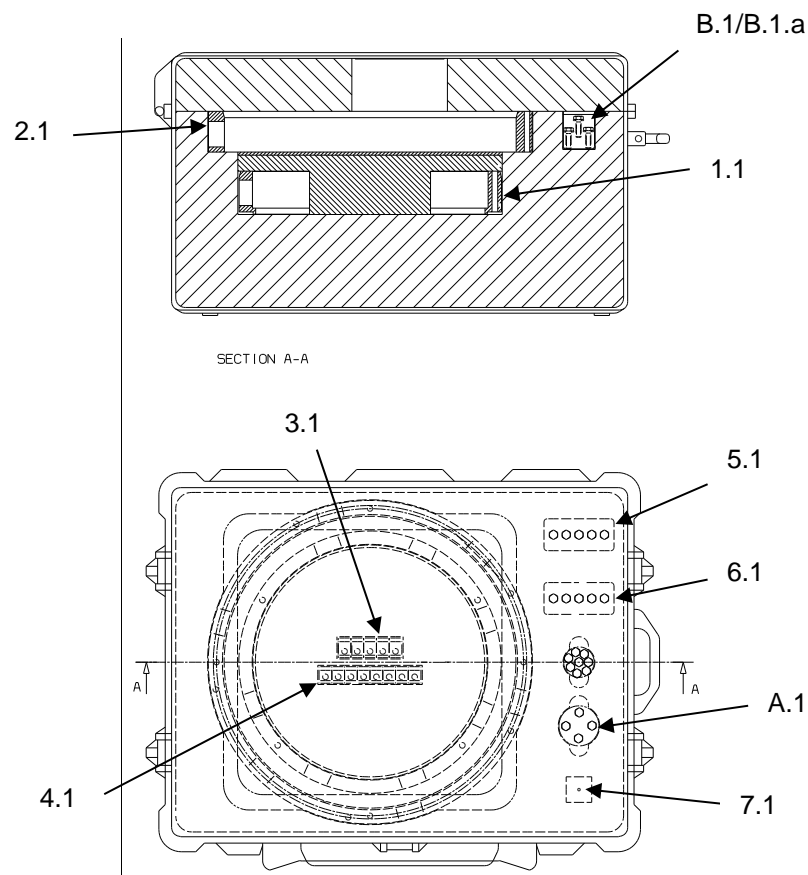

Figure 4 – Tool Kit, Swashplate Assy Assembly Case 1 Main Parts
- 3G6200G02151 GUIDE, SWASHPLATE DUPLEX BEARING INSTL (#1.1, Figure 4)
- 3G6205G11751 GUIDE, SWASHPLATE ASSY ASSEMBLY (#2.1, Figure 4)
- 3G6200G02251 LONG CLAMP, SWASP. DUPLEX BEARING POSIT (QTY 5) (#3.1, Figure 4)
- 3G6205G11451 CLAMP, SWASHPLATE DUPLEX BEARING POSIT. (QTY 8) (#4.1, Figure 4)
- 3G6200G02351 BOLT GUIDE (QTY 5) (#5.1, Figure 4)
- 3G6200G02451 BOLT CLAMP (QTY 5) (#6.1, Figure 4)
- 3G6205G15551 PIN (#7.1, Figure 4)
- AN5-27A BOLT MACHINE (QTY 4) (#A.1, Figure 4)
- AN5-10A BOLT MACHINE (QTY 8) (#B.1, Figure 4)
- NAS1149G0563P WASHER, FLAT (QTY 10) (#B.1.a, Figure 4)
The tool is used to guide the Duplex bearing during the installation on the Rotating swashplate assy configuration 1 in conjunction with 3G6205G15551 PIN (#7.1, Figure 4) and AN5-27A BOLTS (#A.1, Figure 4)(QTY 4).
The guide is used to guide the Duplex bearing during the installation on the Rotating swashplate assy configuration 2, in conjunction with 3G6205G15551 PIN (#7.1, Figure 4), 3G6200G02351 BOLT GUIDE (#5.1, Figure 4) (QTY 5) and washers NAS1149G0563P (#B.1.a, Figure 4) (QTY 5).
The n°5 clamps are used with 3G6200G02451 SPECIAL BOLT CLAMP (#6.1, Figure 4) (QTY 5) and washers NAS1149G0563P (#B.1.a, Figure 4) (QTY 5). to lock in position the Duplex bearing during the cooling after installation into Rotating Swashplate configuration 2.
The clamps are used with AN5-10A BOLT MACHINE (#B.1, Figure 4) (QTY 8) washers NAS1149G0563P (#B.1.a, Figure 4) (QTY 8).to lock in position the Duplex bearing during the cooling after installation into the Rotating swashplate configuration 1.
The guide is used to guide the Rotating swashplate assy during the installation on the static swashplate assy, for configuration with all swashplate assy configuration using AN5-27A (#A.1, Figure 4) (QTY 4).